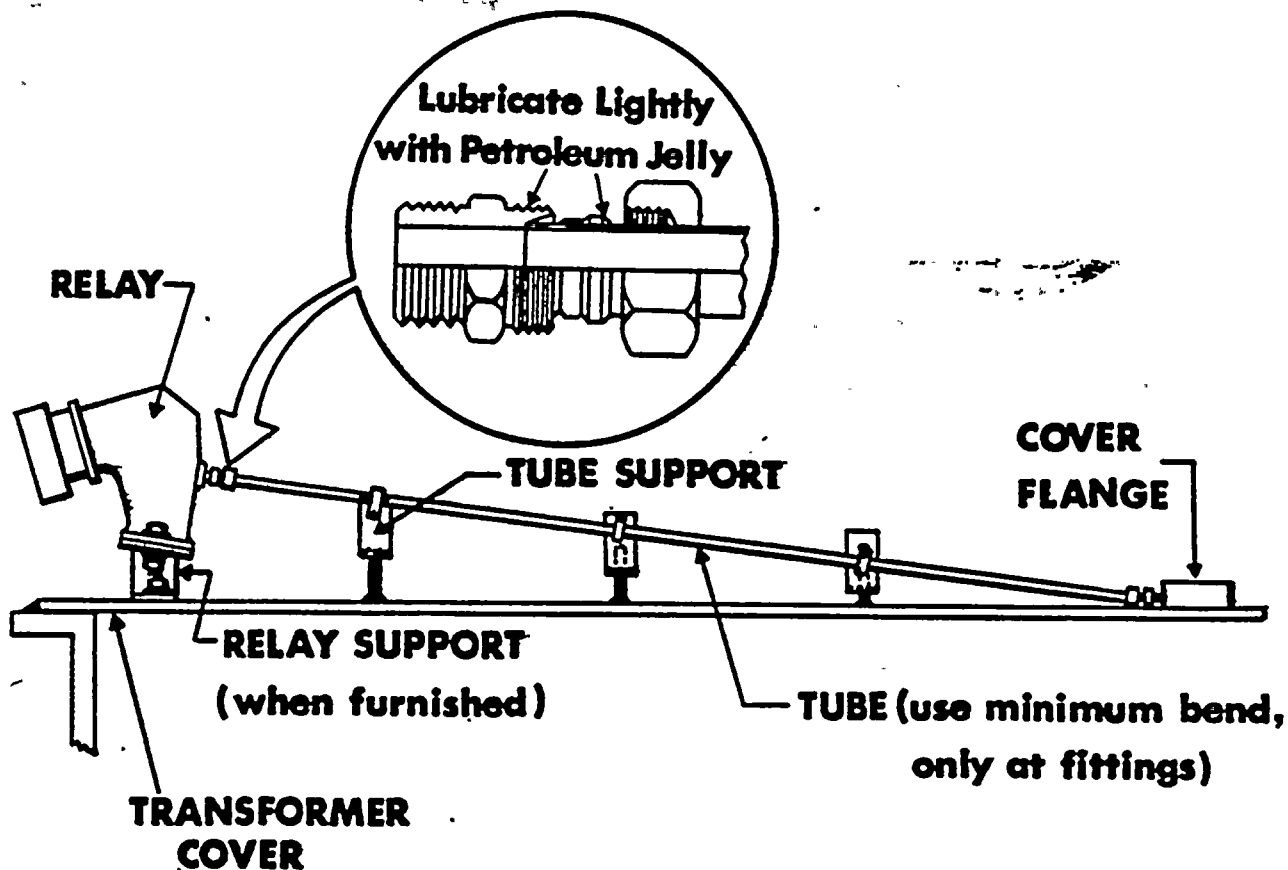

Fig. 5 Outline of typical relay installation on transformer cover
of the transformer cover. The relay will tip back slightly when installed. Leave the mounting nuts loose until the tubing shown in Fig. 5 is fastened in place.
3. Install the length of tubing between the transformer cover flange and the relay chamber. Refer to the Gas Detector Relay Installation drawing. Be sure the tubing is straight. Use a coupling to assemble the straight tubing to the flange on the transformer cover. See Fig. 5. Make a minimum bend at the flange coupling so that a constant pitch is maintained to the relay coupling. It may be necessary to make a slight bend at the relay coupling. After connecting the tubing, and tightening the mounting bolts, assemble the pipe (or tube) supports as shown on the installation drawing.